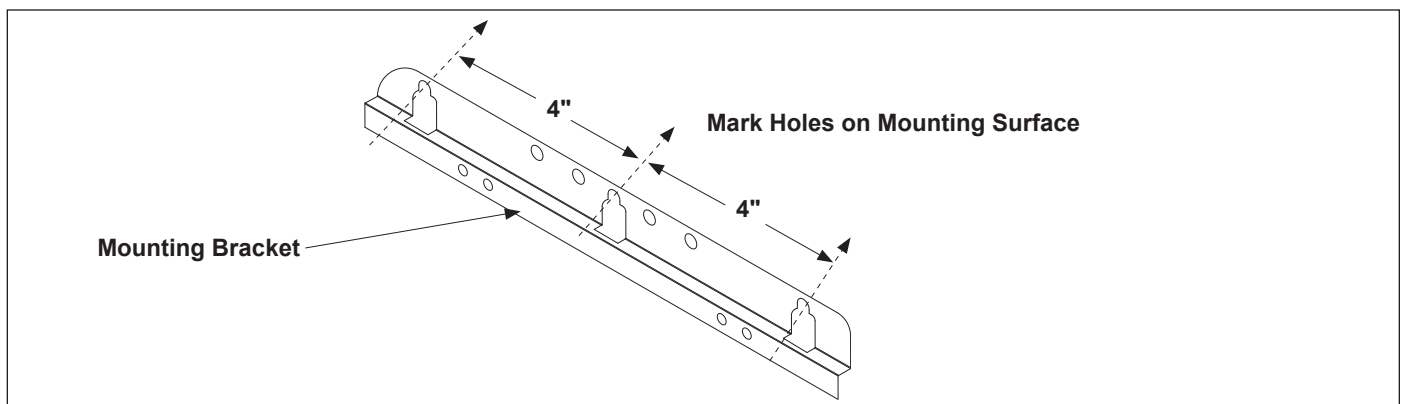

Figure 10. Mark Holes using Power Center Mounting Bracket
3. Using the top mounting bracket as a guide, mark three (3) holes on the mounting surface where the power center will ultimately reside (see Figure 10). Drill the holes in the mounting surface.